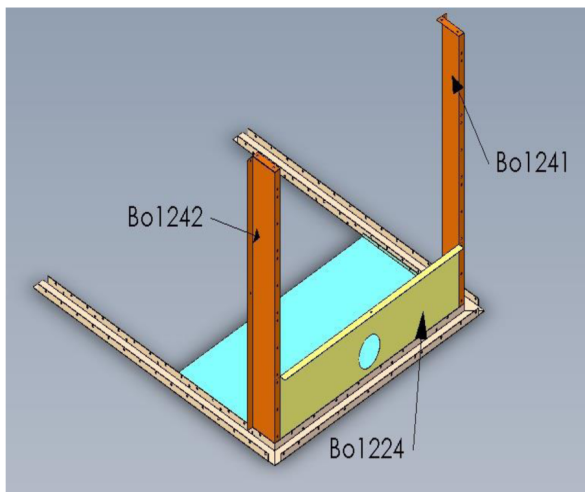

Figure 2
2) Bolt part BO-1241 to BO-5000 using supplied 5/16" bolts. *See figure 2.*